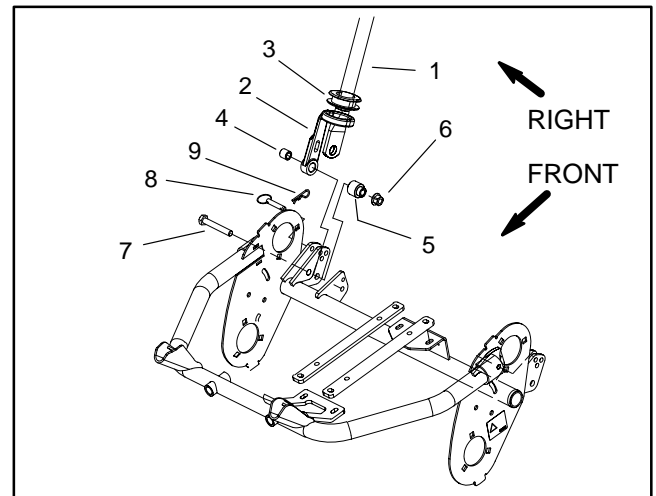

Figure 3
4. Loosen and remove flange nut from cap screw on each end of the handle (Fig. 3).